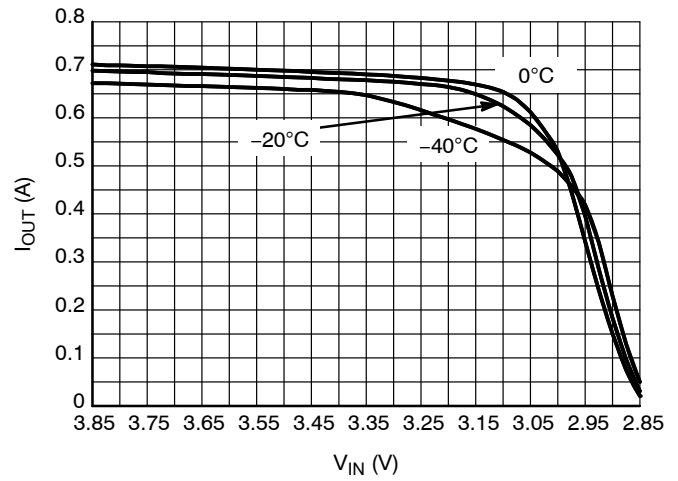

Figure 18. Output Current Capability for the 2.85 V Version
32. For output current capability for T_A < 0 °C, please refer to Figures 18 to 22.